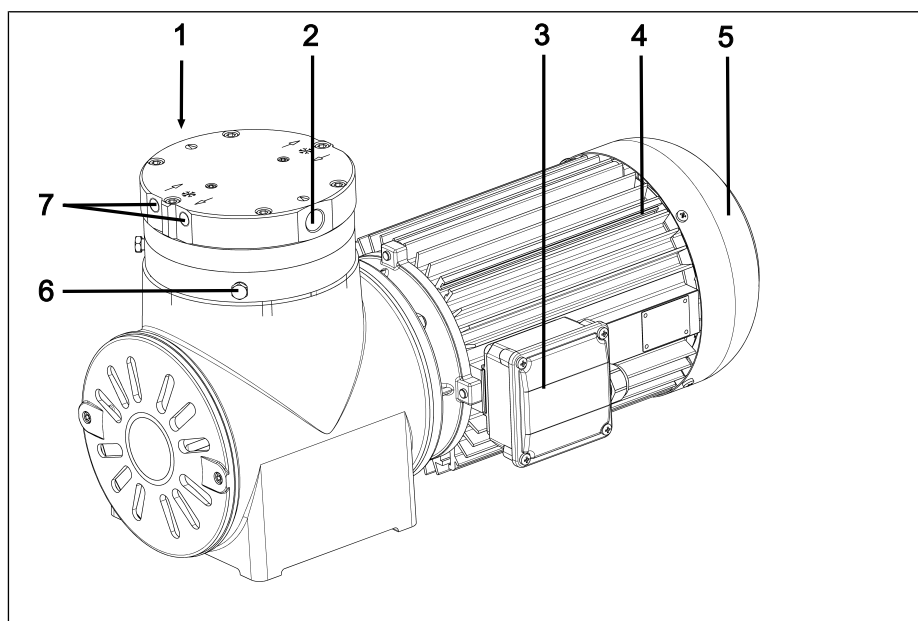
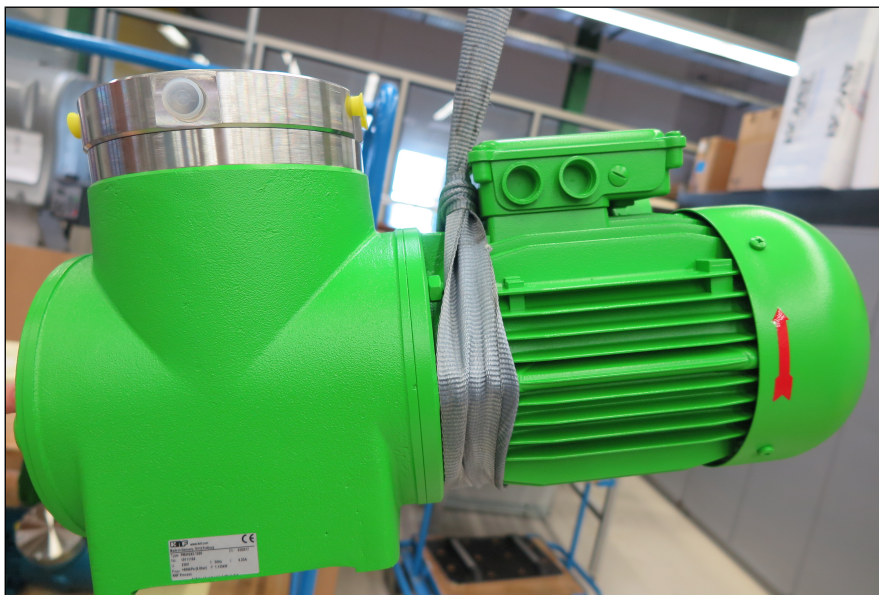

Fig.1 Diaphragm pump N1200.12
Fig.5
2. Fasten the carrying strap between compressor housing and motor (Fig. 1, see Fig. 5).